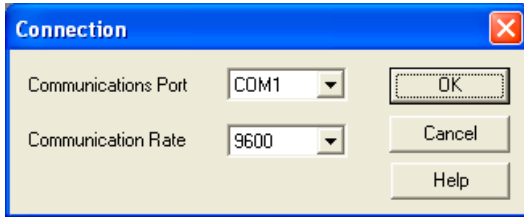

Figure 7-6
- DataView® will open and the **Connection** window will appear (see Figure 7-6).
- Click the **Configure Instrument** button and the **Connection** window will appear (see Figure 7-6).
NOTE: The instrument must be configured for the same communications rate specified in Figure 7-6. If it is not, then you must either select the corresponding rate or change the instrument's rate.